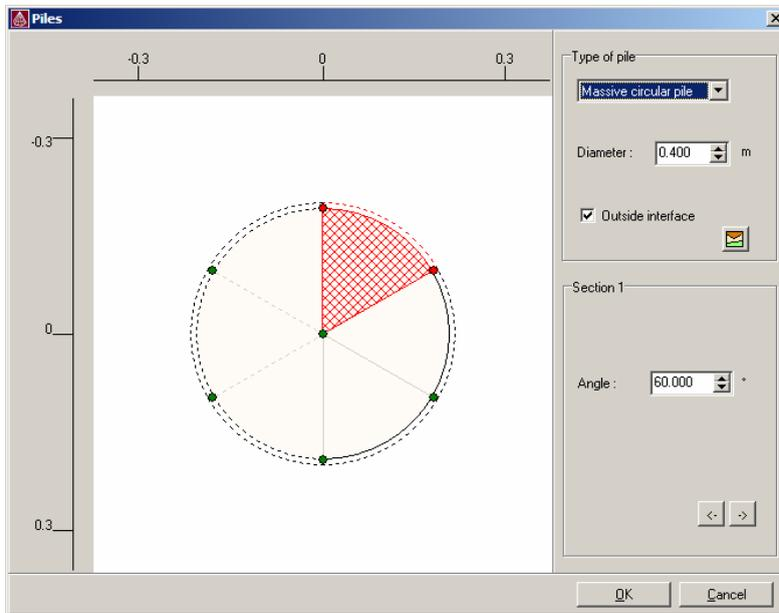

Figure 4.2 Pile designer
- Make sure the work plane  $y = 20.6$  m is selected. Select the *Pile* tool and the *Pile designer* will appear (see Figure 4.2). Select a *Massive Circular pile* for the *Pile type*.